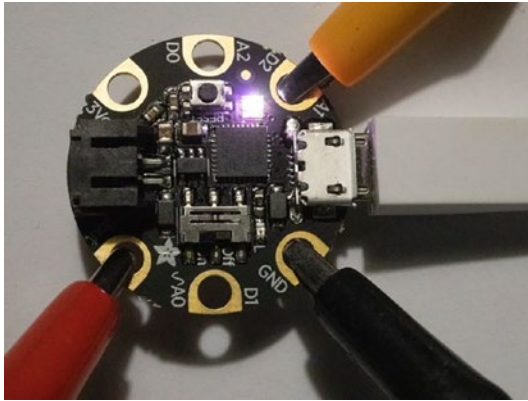

Figure 4-19. *Gemma crocodile clip connections*
- Making sure power is disconnected from your Gemma M0 (you can move the slider switch to off), connect the crocodile clips to the RGB LEDs and the Gemma M0 as shown in Figures 4-19, 4-20, and 4-21. The second LED should have its in connected to the first LED's out terminal and the GND and +V to their corresponding terminals.